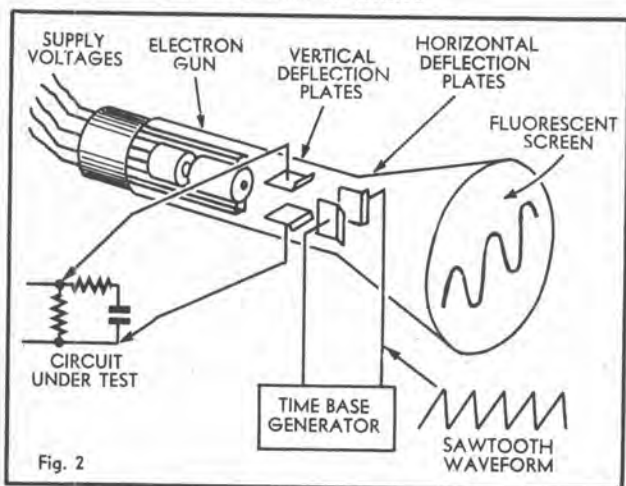

Fig. 2
*Fig. 2: This sketch should help in understanding how the cathode-ray oscilloscope works. The pattern which appears on the screen is virtually a graph of circuit voltage plotted against time.*
Figure 2 should help in understanding how the cathode-ray oscilloscope works. The tube consists of three main parts—a group of electrodes called the "electron gun," two pairs of flat plates called the deflection plates, and a fluorescent screen.